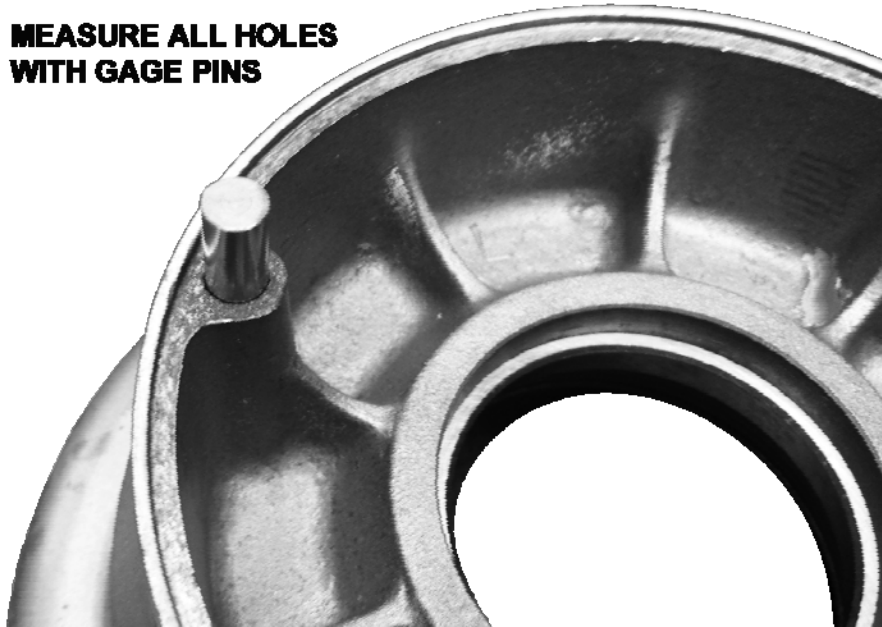

Figure 3 Measure bolt hole diameter
- (1) Refer to Figure 3. Use gage pin diameters from Ø 0.321 inch to Ø 0.328 inch and measure all the bolt holes of the inboard and outboard wheel halves. The gage pins should fit into each of the bolt holes.
- (2) Use a gage pin diameter of Ø 0.329 inches. If the gage pin can fit into one of the bolt holes, then the bolt hole is too large and the wheel half is considered scrap. Refer to E. Inspection Wear Limit Results.